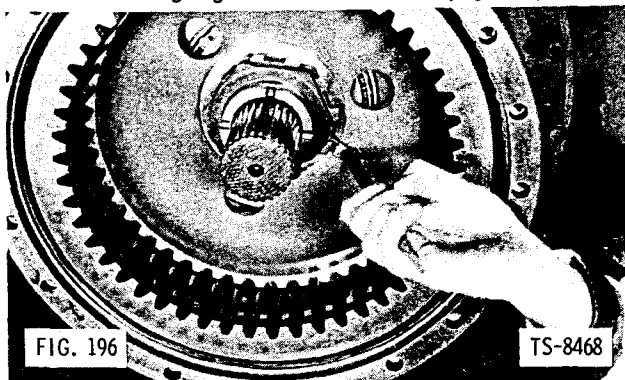

FIG. 196
38. Bend two tangs of nut lock against flats on inner nut and bend two tangs against flats of outer nut (Fig. 196).